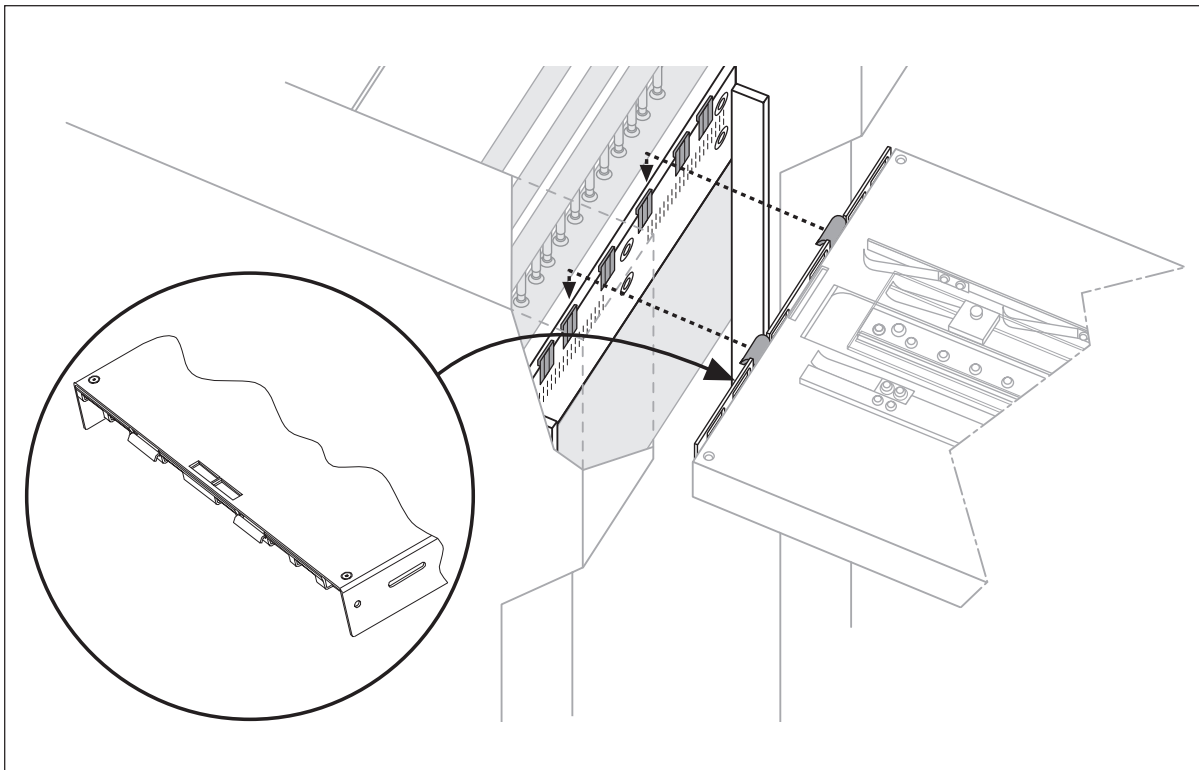

Figure 6. Connect the AB Dick Press to the 270RT Feeder
7. Ensure that the hooks are securely attached to the press plate (Figure 6).